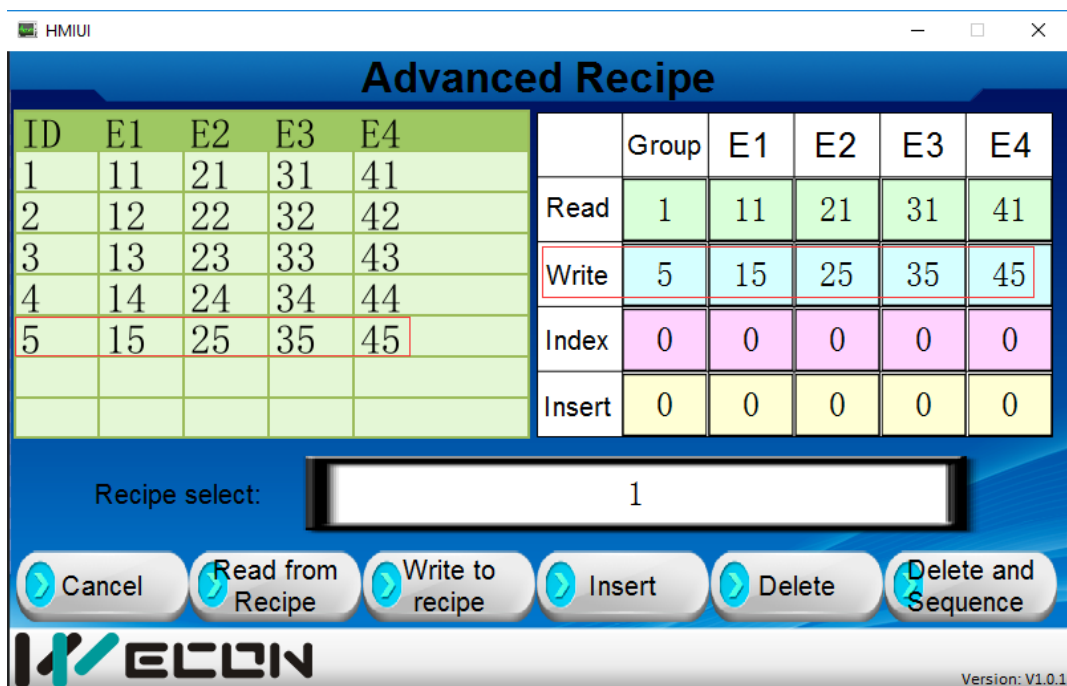

Figure 10
- 3) Click "Write to recipe", if the group is existing the members' information will be changed, if there are no groups, it will create a new group automatically, as figure 10 shows.